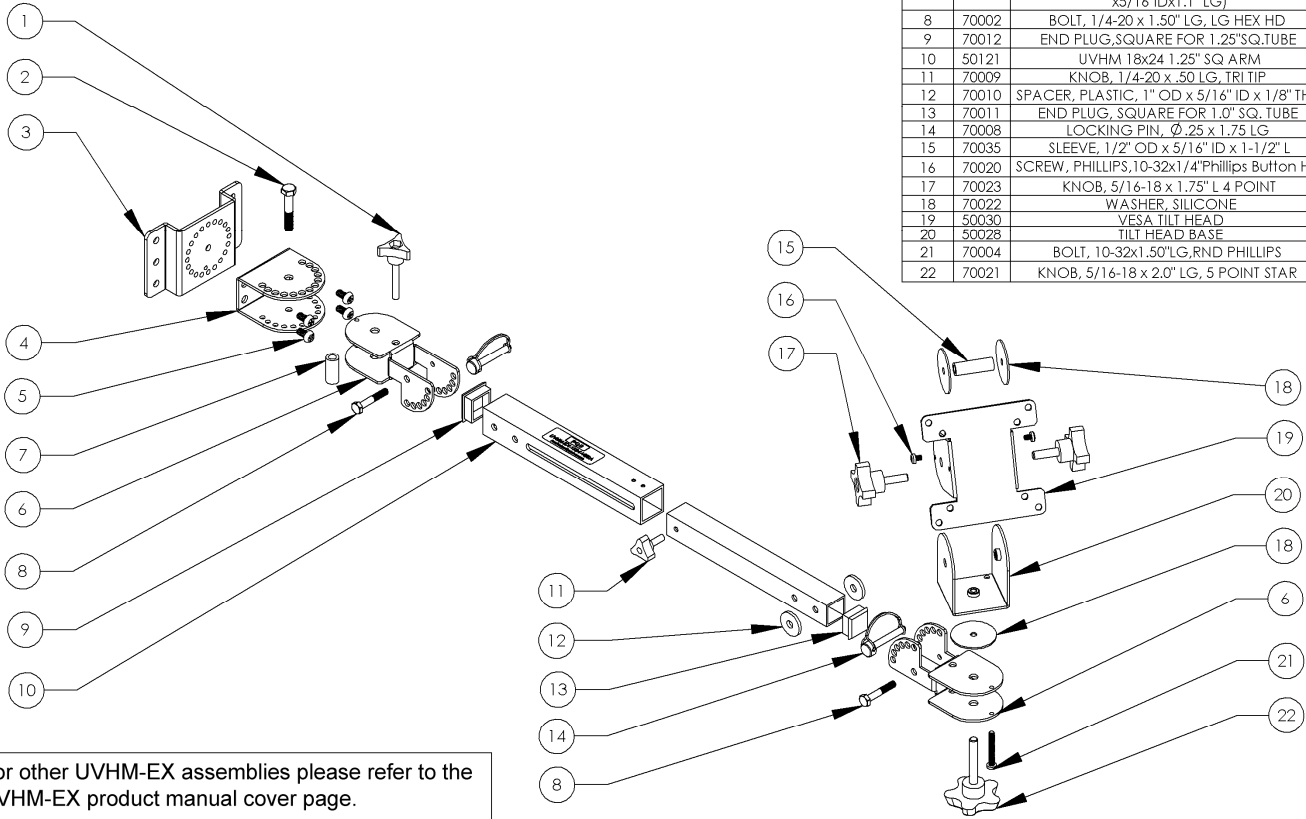

Figure 9 - UVHM-EX-VESA
6. Hold the upper arm assembly so that the bottom of the upper OB bracket is flat against the top of the P1 mounting plate. Align the center holes of the upper OB bracket and the P1 mounting plate (See Figure 9).
7. Place the plastic spacer inline with the holes on the inside of the upper OB bracket. Insert the 5/16"-18 X 1 3/4" length bolt into the top center of the OB bracket, through the plastic spacer and thread the bolt into the center hole of the P1 mounting plate (See Figure 9).
2. Hold the upper arm assembly so that the tape marker on the OB bracket is facing down, place the OB bracket on top of the center hole in the P1 mounting plate and align the center holes of both brackets (See Figure 9).
3. Place the plastic spacer inline with the holes on the inside of the upper OB bracket and insert the 5/16"-18 X 1 3/4" length bolt into the center top of the OB bracket, through the plastic spacer, and thread the bolt into the center hole of the P1 mounting plate (See Figure 9).
2. Remove the three pointed knob from the top front of the EX bracket (See Figure 9).